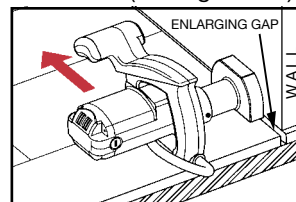

Fig. 10 - Enlarging gap with No. 795
2. Enlarge gap between wall and laminate planks as required by laminate manufacturers. (See figure 10.)